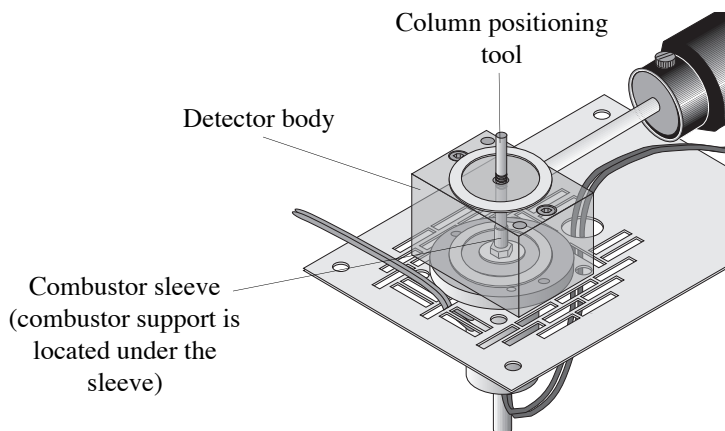

Figure 4.39. Placing the column positioning tool into the detector body
7. Using a laboratory tissue, **gently** insert the column positioning tool into the detector body (Figure 4.39). The column positioning tool rests on top of the combustor support.